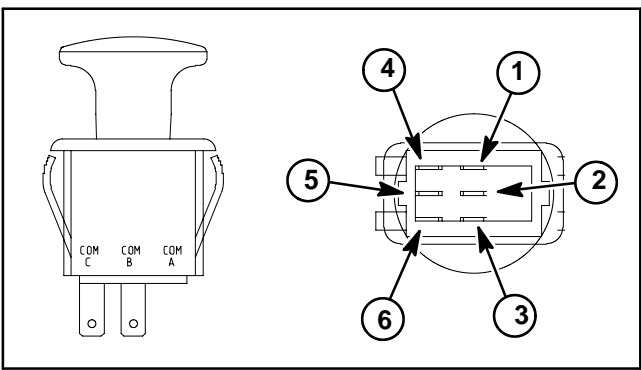

Figure 25
5. The switch terminals are marked as shown in Figure 25. The circuit logic of the PTO switch is shown in the chart below. With the use of a multimeter (ohms setting), the switch functions can be tested to determine whether continuity exists between the various terminals for each switch position. Verify continuity between switch terminals. Replace switch if testing identifies that switch is faulty.